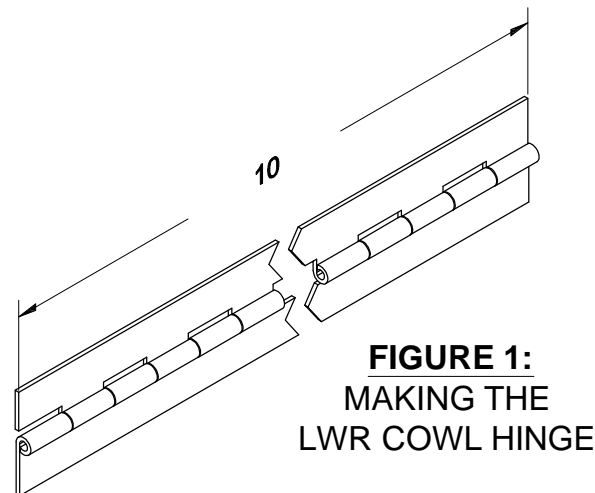

FIGURE 1:
Step 1: Make two F-12117 Lwr Cowl Hinges 10 inches long from AN257-P3 Piano Hinge. Remove pin before cutting the hinge! See Figure 1.